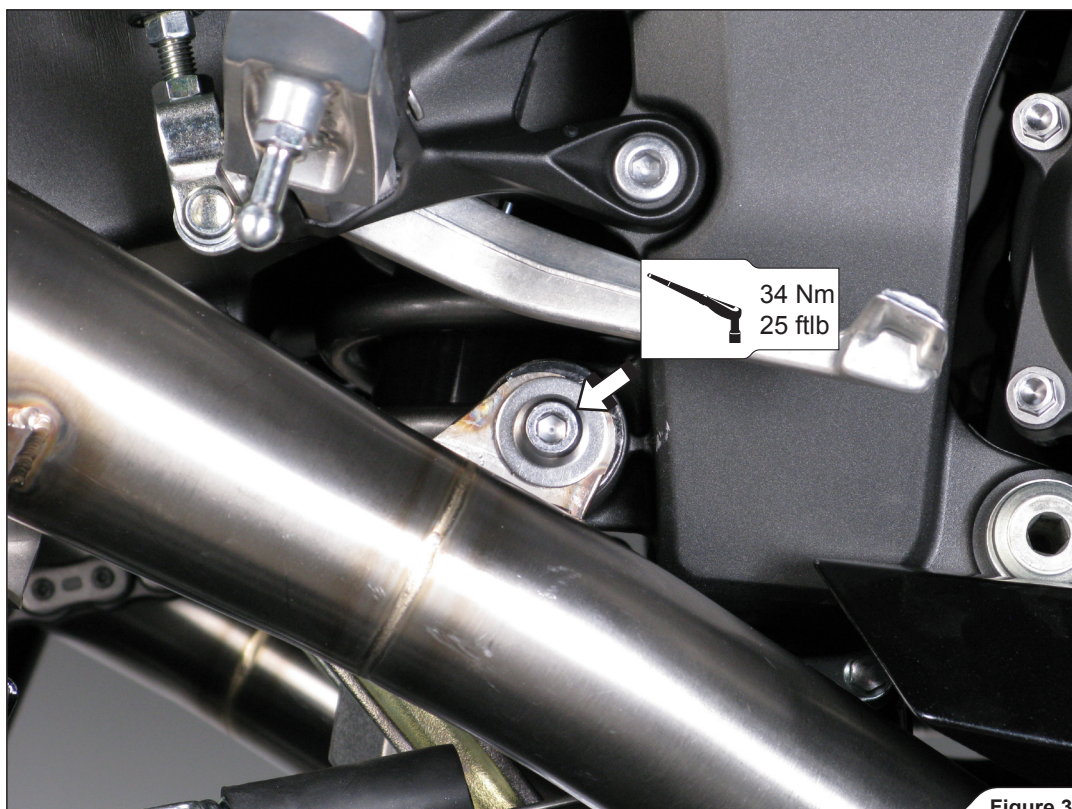

Figure 34
14. Fully tighten the link pipe bracket on the right side of the motorcycle (Figure 34).